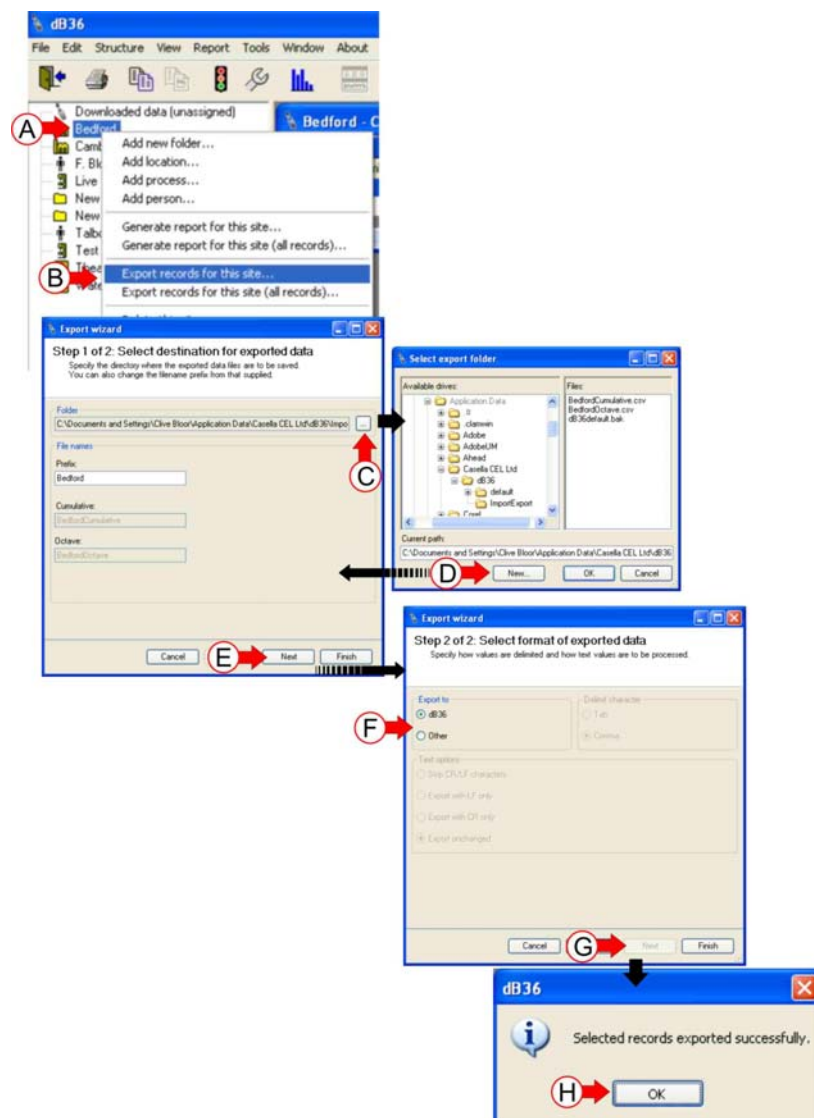

Figure 55 Exporting Data
A. EXPORTING FROM THE DATABASE (Refer to Figure 55)